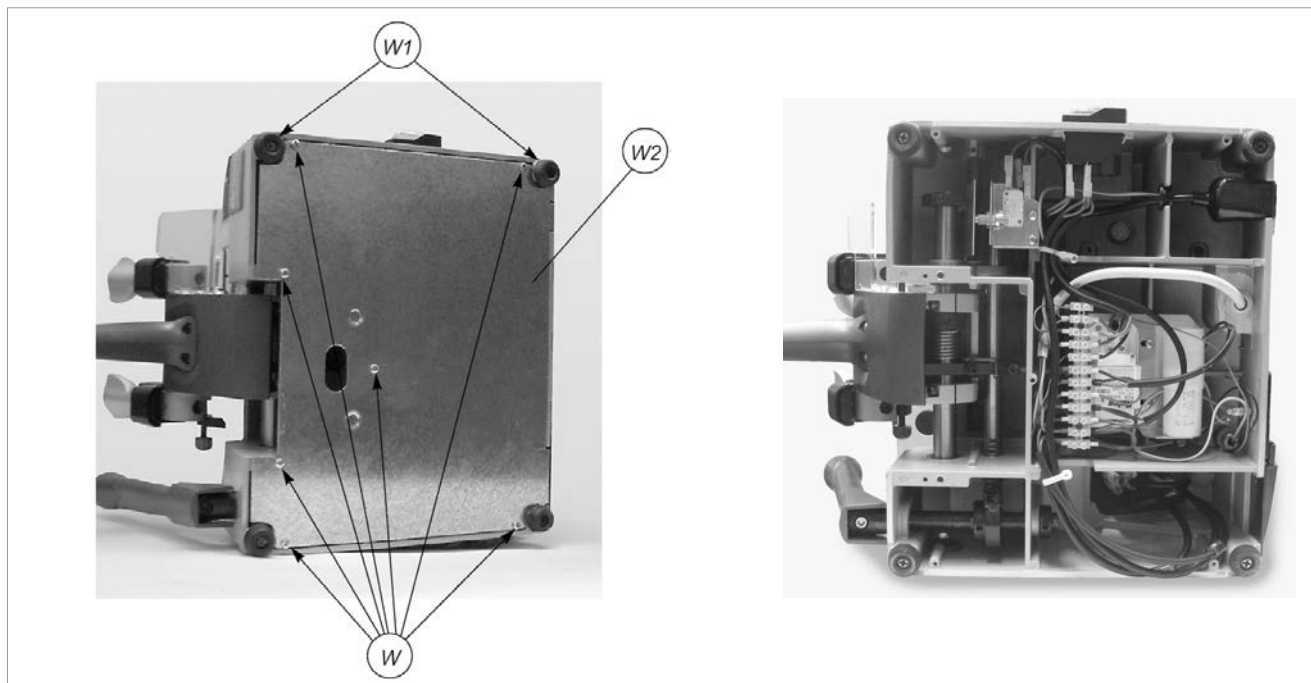
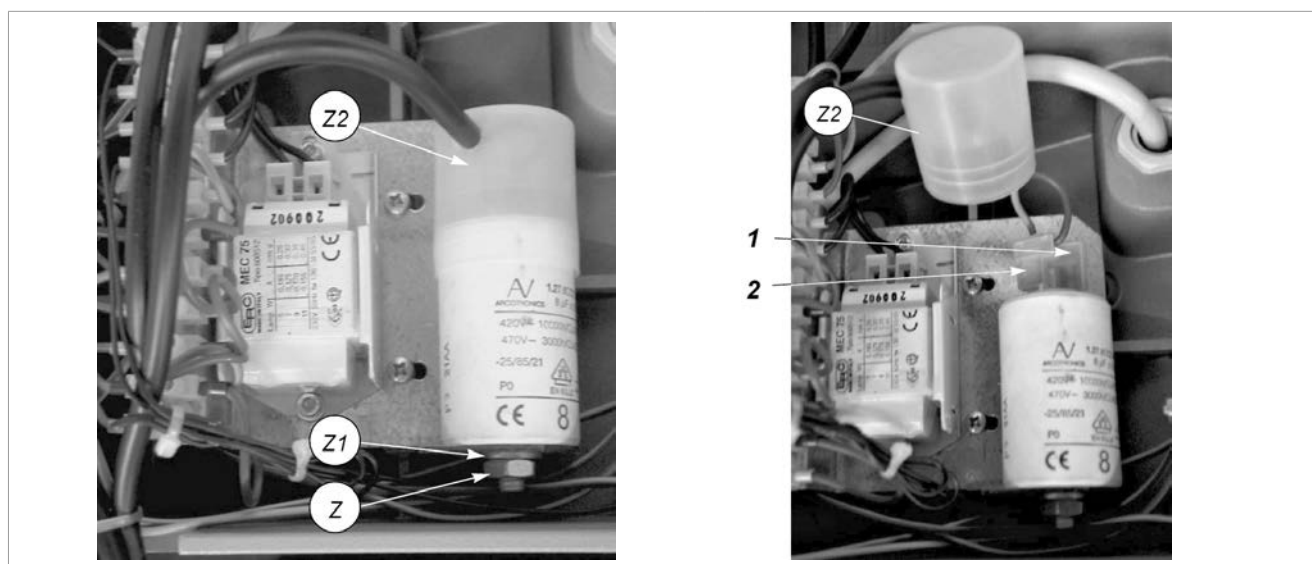
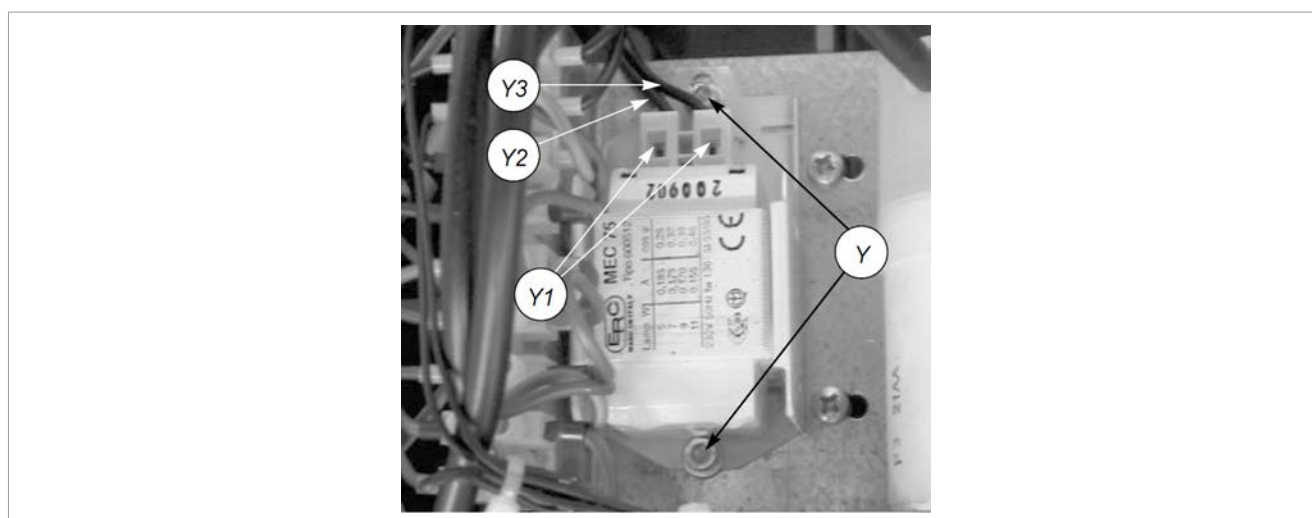

Fig. 31
Fig. 33
Fig. 34
- 4) Loosen the 7 screws (W) and 2 feet (W1) and remove the bottom safety plate (W2) (Fig. 31).
- 1) Loosen the nut (Z) and remove the washer (Z1) and condenser (Fig. 33).
- 2) Fit the new condenser and fix with the washer (Z1) and nut (Z).
- 6) Replace the bottom safety plate, fix with the 7 screws (W) and 2 feet (Fig. 31, page 23). Fit the swarf tray.
- 1) Loosen the 2 screws (Y) and remove the reactor (Fig. 34).
- 4) Place the new reactor in its seat and secure with the 2 screws (Y).
- 5) Replace the bottom safety plate and fix with the 7 screws (W) and 2 feet (W1) (Fig. 31, page 23). Fit the swarf tray.
- 9) Replace the bottom safety plate and secure with the 7 screws (W) and 2 feet (W1) (Fig. 31, page 23). Fit the swarf tray.